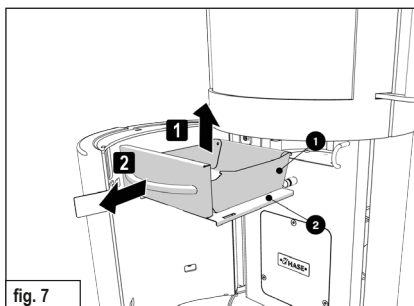

fig. 7
- ▶ Pull out the ash container (1) by the handle with the lid (2) (fig. 7).